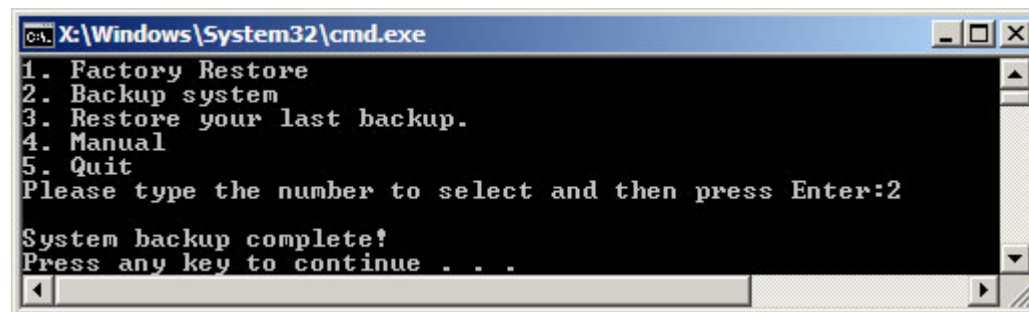

Figure B-38: System Backup Complete Window
**Step 3:** The screen is shown in **Figure B-38** appears when system backup is complete.